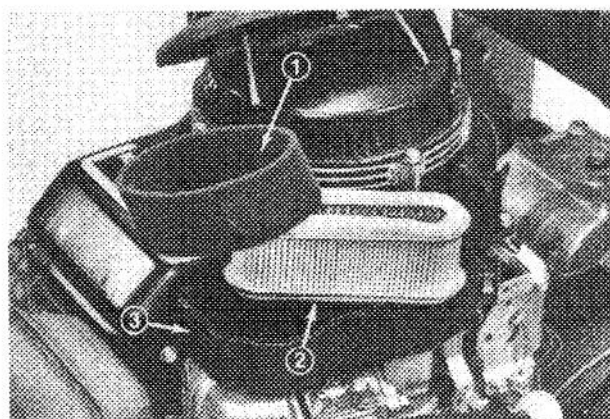

Figure 15
2. Remove foam pre-cleaner by sliding it off the paper element (Fig. 15).
5. Set air gap between center and side electrodes at 0.024-0.027 of an inch (0.6-0.7 mm) (Fig. 15). Install correctly gapped spark plug w/gasket seal, and tighten plug to 15 ft-lb (20.4 N·m). If torque wrench is not used, tighten plug firmly.